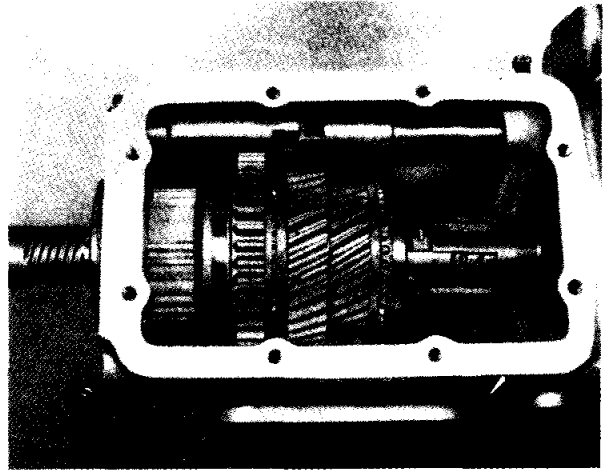

Fig. 13 Showing the removal of the Mainshaft Circlip with Churchill Tool No. 20SM69.
- (m) Remove mainshaft circlip with the special extractor shown in Fig. 13. The extraction of this circlip is made